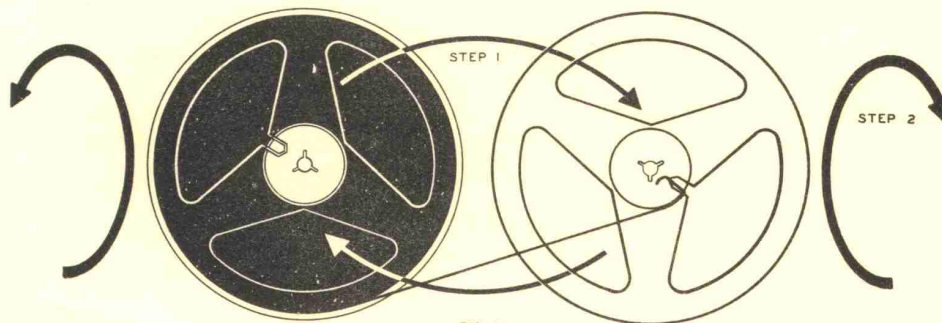

FIG. 3
- (i) Lift the tape from its threaded path so that it passes directly from the supply reel to the take-up reel, as shown in Fig. 3. Remove clutch loader.
- (ii) Grasp the take-up reel in the right hand and the supply reel in the left hand. Now reverse the positions of both reels as indicated in Fig. 3 (Step 1) and turn both reels over (Step 2) so that the tape runs from the bottom of the reel on the take-up spindle to the bottom of the reel on the supply spindle. Replace clutch loader on take-up spindle.